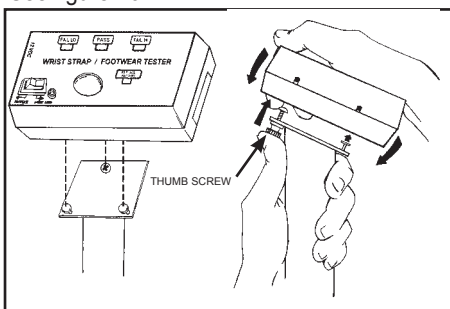

Figure 10. Installing tester on bracket
D. Install the tester on the bracket by aligning keyholes on the back of tester with mounting studs on bracket. While pushing up on thumb screw, insert the mounting studs into the keyholes and slide the tester down. See figure 10.